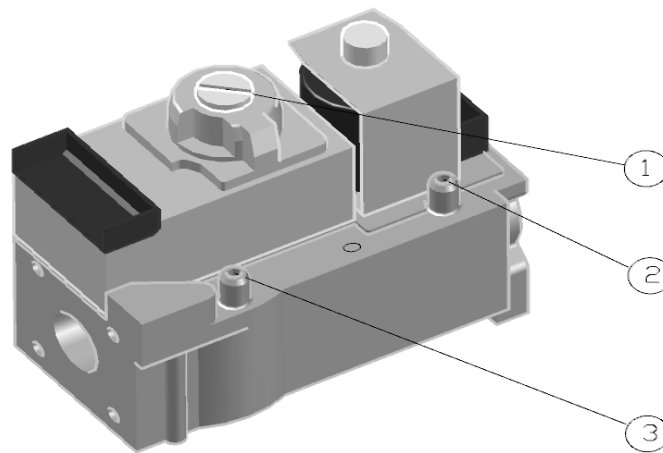

Fig. 25 Gas valve adjustment
- ① Close the gas supply and unplug power supply.
- ② Disconnect the feeding nozzle from the solenoid valve by the pipe union.
- ③ Unscrew the nozzle.
- ④ Substitute the natural gas nozzle with LPG nozzle (see: table with technical data).
- ⑤ Connect the pipe to the solenoid valve.
- ⑥ Disconnect the solenoid valve reducer (screw clockwise the control pressure screw until it stops moving- fig. 25, position 1).
- ⑦ Turn on the unit and check if the gas pressure which flows into the burner- at the control opening by the solenoid valve inlet - amounts to 37 mbar (*).
- ⑧ Check the gas gasket at the screw joints.
- ⑨ Note down the modification on the rating plate (gas type).